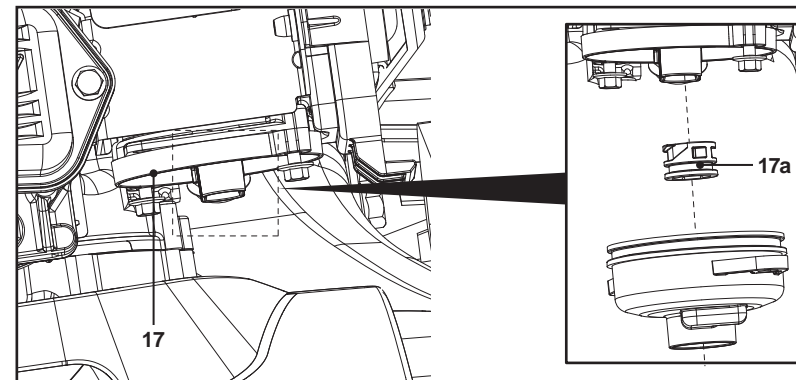

Fig. 30
3. Unscrew the fuel drain screw (17a) and let the fuel run into the container (Fig. 30).